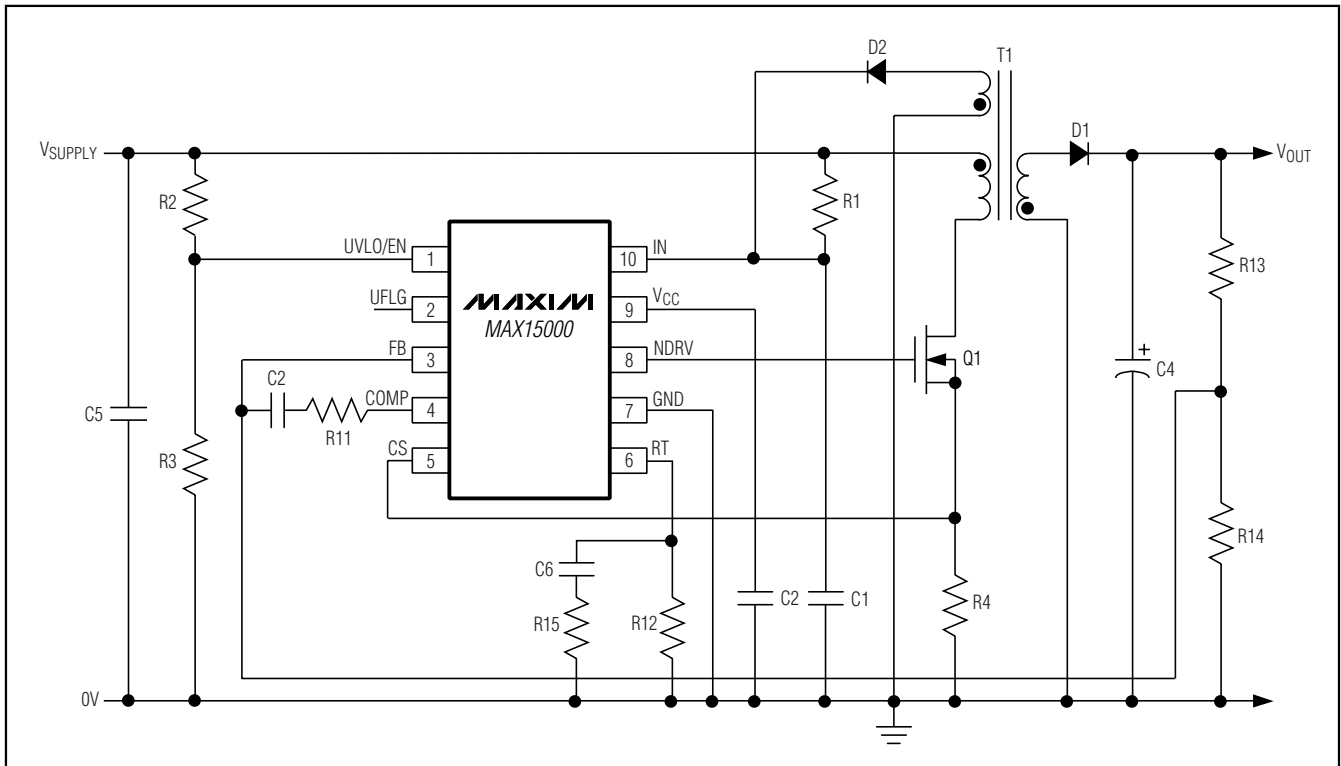
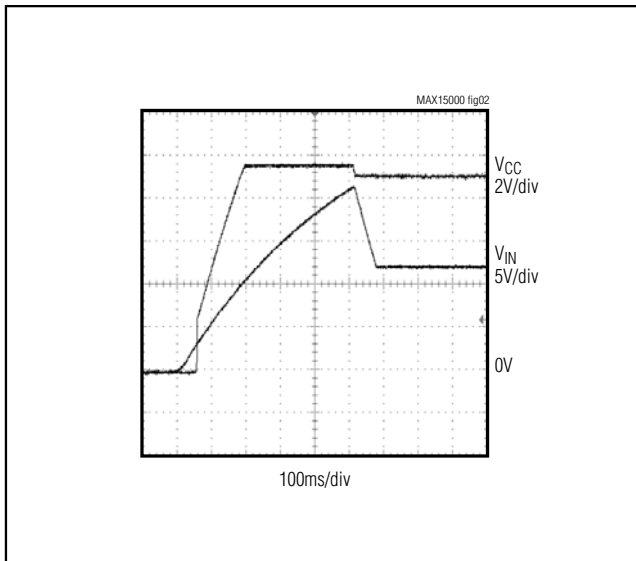

Figure 1. Nonisolated Power Supply with Programmable Input-Supply Start Voltage
Figure 2.  $V_{IN}$  and  $V_{CC}$  During Startup When Using the MAX15000 in Bootstrapped Mode (Figure 1)
- Note 2:** The MAX15000 is intended for use in universal input power supplies. The internal clamp circuit at IN is used to prevent the bootstrap capacitor (C1 in Figure 1) from charging to a voltage beyond the absolute maximum rating of the device when UVLO/EN is low (shutdown mode). Externally limit the maximum current to IN (hence to clamp) to 2mA maximum when UVLO/EN is low. Clamp currents higher than 2mA may result in a clamp voltage higher than 30V, thus exceeding the absolute maximum rating for IN. For the MAX15001, do not exceed the 24V maximum operating voltage of the device.
*Characteristics* table). The input is clamped when the devices are started with a bleed resistor (R1 in Figure 1) from a high input voltage and the UVLO/EN input is low. The clamp can safely sink up to 2mA current.
Power supplies designed with the MAX15000 use a high-value startup resistor R1 that charges a reservoir capacitor C1 (see Figure 1). During this initial period, while the voltage is less than the internal bootstrap UVLO threshold, the device typically consumes only 50µA of quiescent current. This low startup current and the large bootstrap UVLO hysteresis help to minimize the power dissipation across R1 even at the high end of the universal AC input voltage (265VAC).
Use this UVLO/EN input to program the input-supply start voltage. For example, a reasonable start voltage for a 36V to 72V telecom range is usually 34V. Calculate the resistor-divider values, R2 and R3 (see Figure 1) by using the following formulas:
For the MAX15000, the voltage at IN is normally derived from a tertiary winding of the transformer. However, at startup there is no energy being delivered through the transformer, hence, a special bootstrap sequence is required. Figure 2 shows the voltages at IN and  $V_{CC}$  during startup. Initially, both  $V_{IN}$  and  $V_{CC}$  are 0V. After the line voltage is applied, C1 charges through the startup resistor, R1, to an intermediate voltage. At this point, the internal regulator begins charging C2 (see Figure 1). Only 50 $\mu$ A of the current supplied through R1 is used by the MAX15000, the remaining input current charges C1 and C2. The charging of C2 stops when the  $V_{CC}$  voltage reaches approximately 9.5V, while the voltage across C1 continues rising until it reaches the wake-up level of 21.6V. Once  $V_{IN}$  exceeds the bootstrap UVLO threshold, NDRV begins switching the MOSFET and transfers energy to the secondary and tertiary outputs. If the voltage on the tertiary output builds to higher than 9.74V (the bootstrap UVLO lower
The MAX15000A/MAX15001A and MAX15000B/MAX15001B have programmable output switching frequencies from 25kHz to 625kHz and 12.5kHz to 625kHz, respectively. Use the following formulas to determine the appropriate value of the resistor  $R_{12}$  (see Figure 1) needed to generate the desired output switching frequency ( $f_{sw}$ ) at the NDRV output:
where  $R_{12}$  is the resistor connected from  $R_T$  to GND (see Figure 1).
Connect an RC network in parallel with  $R_{12}$  as shown in Figure 1. The RC network should consist of a 100nF capacitor  $C_6$  (for stability) in series with resistor  $R_{15}$  which serves to further minimize jitter. Use the following formula to determine the value of  $R_{15}$ :
The MAX15000/MAX15001 include an internal error amplifier to regulate the output voltage in the case of a nonisolated power supply (see Figure 1). For the circuit in Figure 1, calculate the output voltage using the following equation:
The current-sense resistor (R4 in Figure 1), connected between the source of the MOSFET and ground, sets the current limit. The current-limit comparator has a voltage trip level ( $V_{CS}$ ) of 1V. Use the following equation to calculate the value of R4:
The bypass capacitor at IN, C1, supplies current immediately after the MAX15000 wakes up (see Figure 1). The size of C1 and the connection configuration of the tertiary winding determine the number of cycles available for startup. Large values of C1 increase the startup time but also supply gate charge for more cycles during initial startup. If the value of C1 is too small,  $V_{IN}$  drops below 9.74V because NDRV does not have enough time to switch and build up sufficient voltage across the tertiary output which powers the device. The device goes back into UVLO and does not start. Use a low-leakage capacitor for C1 and C2.
The above startup method is applicable to a circuit similar to the one shown in Figure 1. In this circuit, the tertiary winding has the same phase as the output windings. Thus, the voltage on the tertiary winding at any given time is proportional to the output voltage and goes through the same soft-start period as the output voltage. The minimum discharge time of C1 from 21.6V to 9.74V must be greater than the soft-start time of 5.6ms.